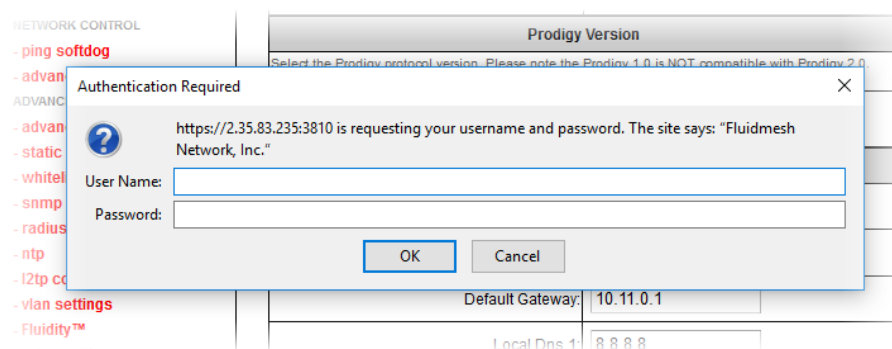

Figure 62. Web browser (Authentication Required dialog)
- The web browser will show the **Authentication Required** dialog (Figure 62 (page 142)). If needed, use the dialog to log in again.